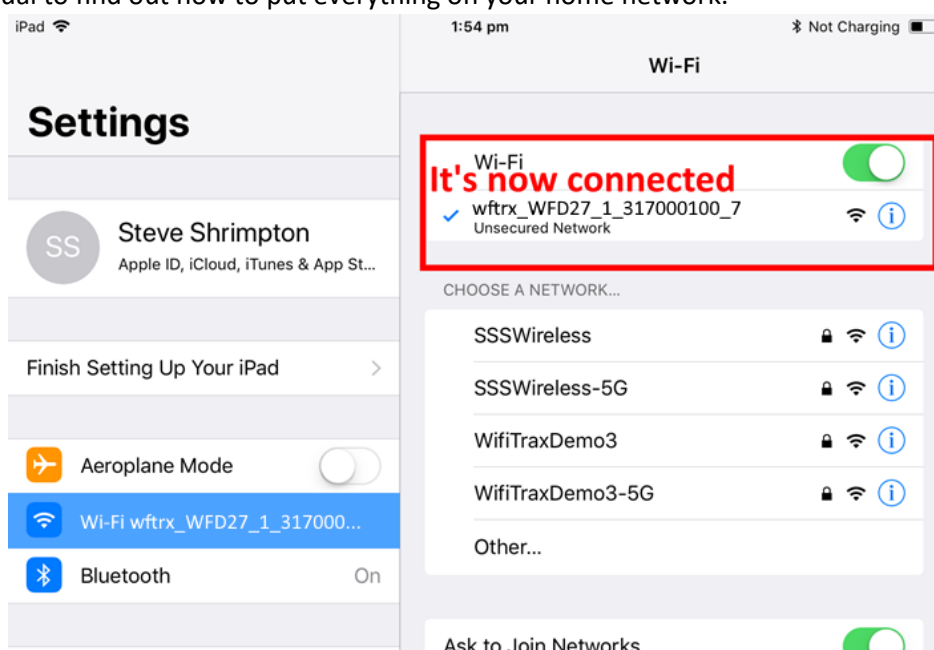

Figure 5 The iPad has connected to the WFD-27 Wi-Fi Access Point
- (6) No password is required and after a few moments you should see that it has connected as in Figure 5. The left-hand menu shows Wi-Fi wftxr_WFD27_1_XXXXXXX_7. You will not be able to access the internet while you are connected to the Wi-Fi access point of the WFD-27, but consult the manual to find out how to put everything on your home network.